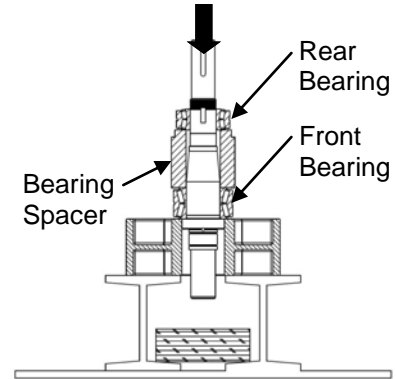

Figure 35: Removing Bearings and Sleeve From Shaft
6) Using a press and a V-block, remove the front and rear bearings along with the bearing spacer. To prevent damage to the shafts make sure that both ends are protected (Figure 35). Reference Table 5 for the required force (in tons) needed to press the bearings off the shafts.